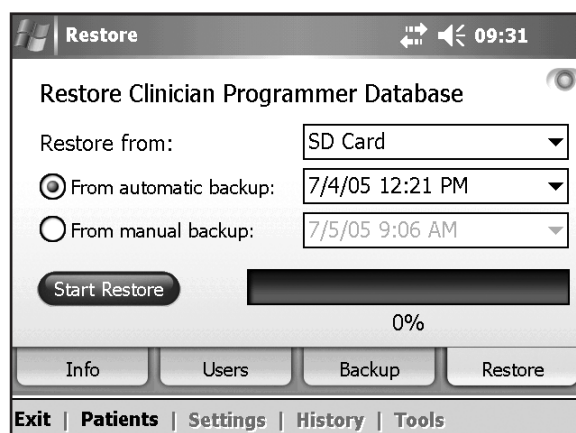

Figure 7-44: Restore window.
4. Press **Tools** and then the **Restore tab**. The Restore window will open. See Figure 7-44.